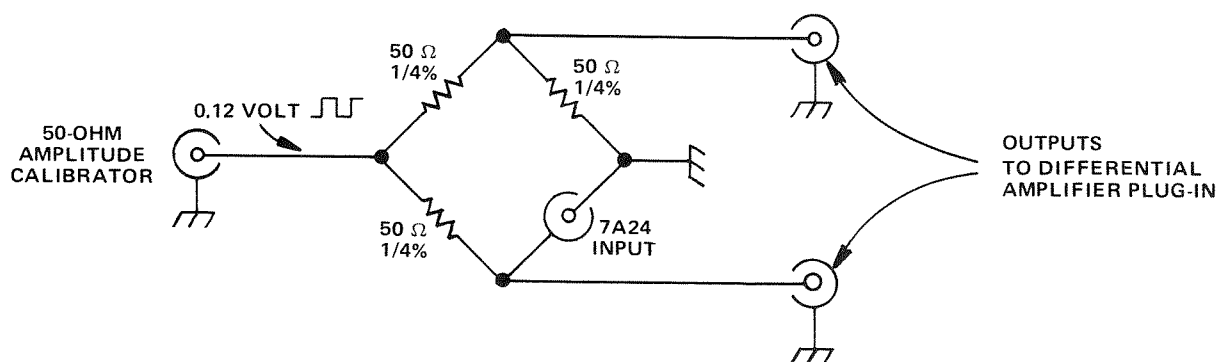

Fig. 5-1. Test circuit for Input Resistance Check/Adjust.
²Any method of accurately ($\pm 0.5\%$) measuring resistance may be substituted for this piece of equipment and the test circuit shown in Fig. 5-1.
- Connect the test circuit, as shown in Fig. 5-1, to the CH 1 input.